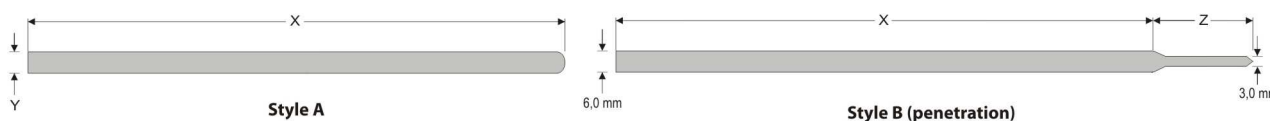
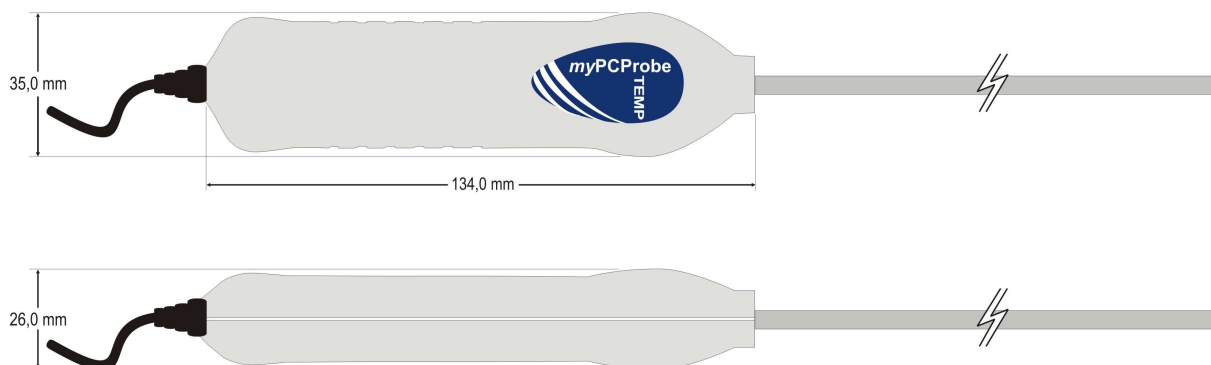

Figure 01 – Available probe styles
Figure 02 – TEMP model dimensions
- **Dimensions:** Refer to Figure 02, Table 01 and Figure 01.